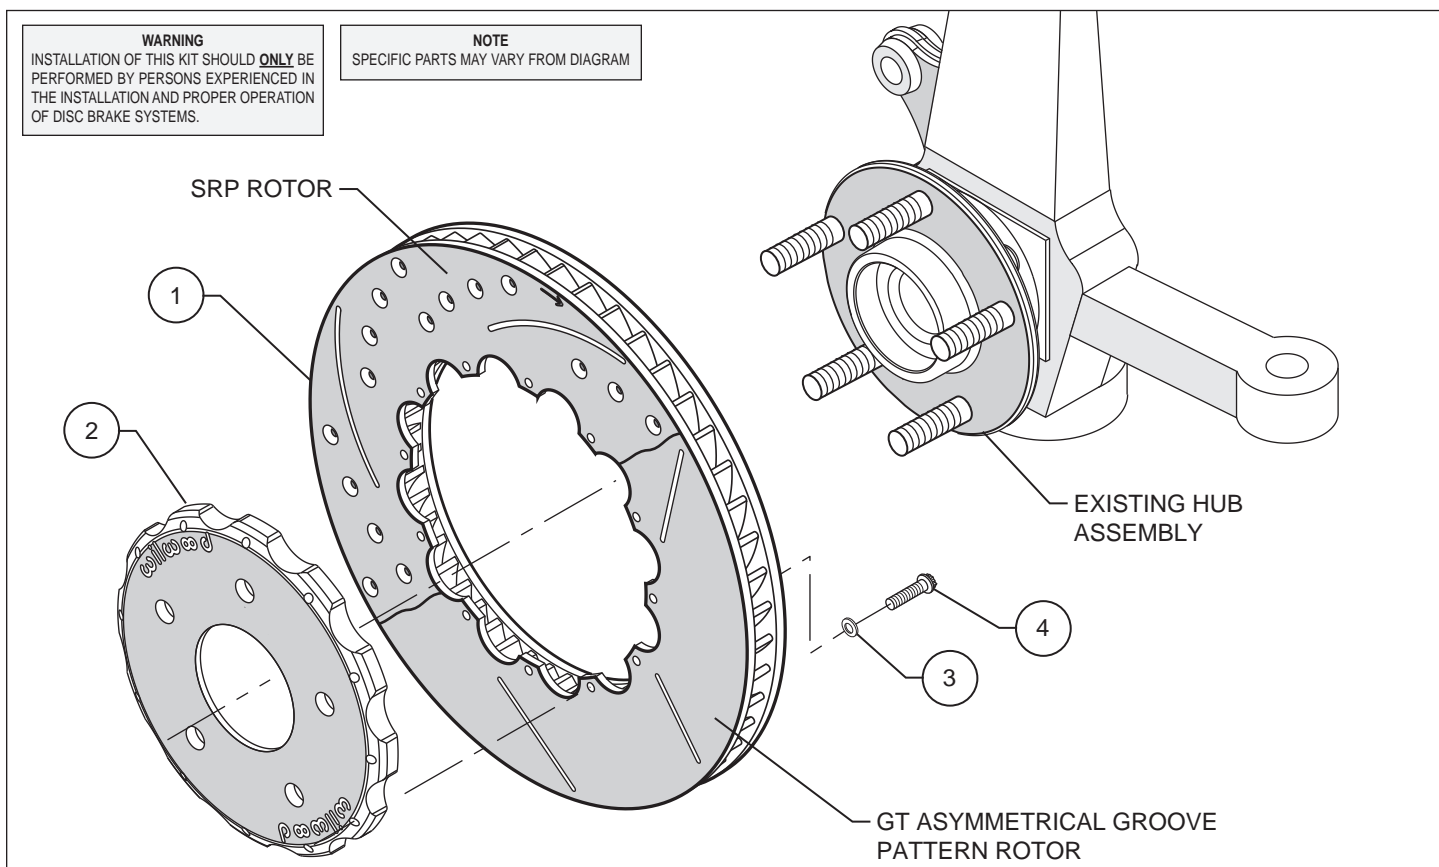
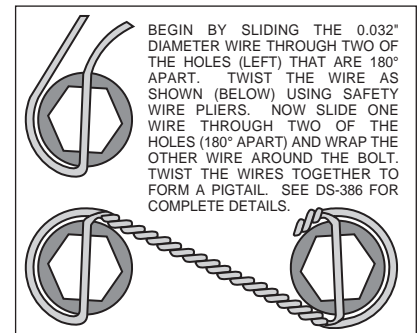

Figure 1. Typical Installation Configuration
Figure 2. Safety Wire Diagram
- Assemble the rotor (1) to the hat (2) with the bolts (4) and washers (3) provided in the configuration shown in Figure 1. Using an alternating sequence, apply red *Loctite*® 271 to the threads and torque bolts to 155 **in-lb**. For an added measure of security, the bolts may be safety wired using standard 0.032 inch diameter stainless steel safety wire as shown in Figure 2. Please refer to Wilwood's data sheet DS-386 (available at www.wilwood.com/Pdf/DataSheets/ds386.pdf) for complete safety wire installation instructions.
- Align the hole pattern on the hat (2) with the stud pattern on the hub. Slide the hat and rotor assembly (1 and 2) onto the hub. Check to be sure the hat seats squarely against the hub face. The hub must be free from any rust, debris, casting burrs, machining irregularities, etc. Use several lug nuts to hold the rotor and hat firmly against the hub face.